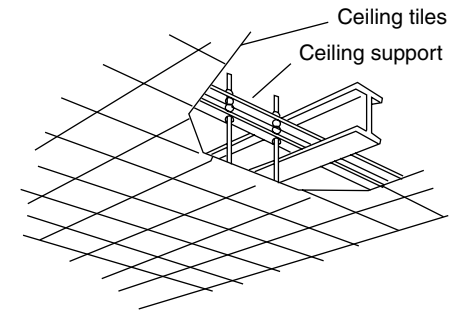

Fig. 3-103
- Use existing ceiling supports or construct a suitable support as shown in Fig. 3-103.